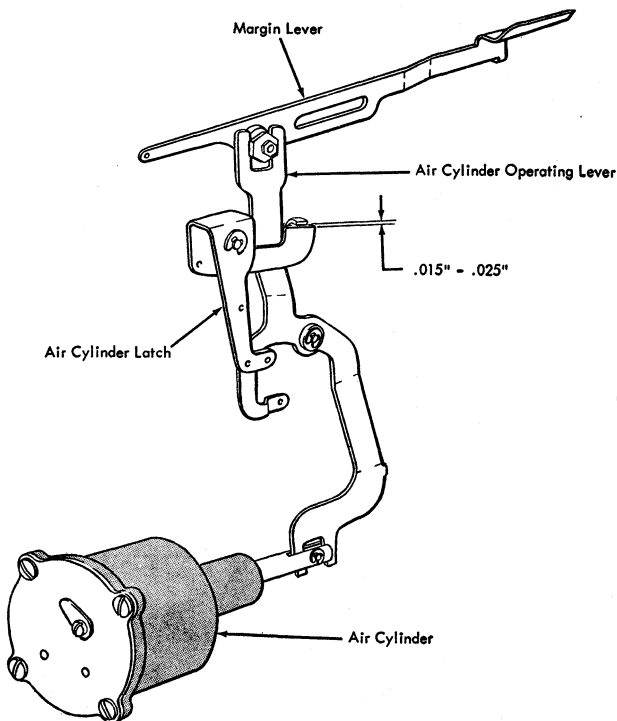

Figure 5. Air Cylinder Operating Lever Released (Cam on High Point)
5. THE AIR CYLINDER LATCH LINK from the intermediate bellcrank to the air cylinder latch is adjusted so that, when the carriage return cam is on its high point, the formed lug on the air cylinder lever will clear the latch by .015"-.025" (Figure 5).
6. THE ECCENTRIC ON THE MARGIN LEVER is adjusted for .010"-.015" clearance between the air cylinder lever and the air cylinder latch when the margin lever is held to the extreme right. The high point of the eccentric should be kept toward the top of the machine (Figure 5).